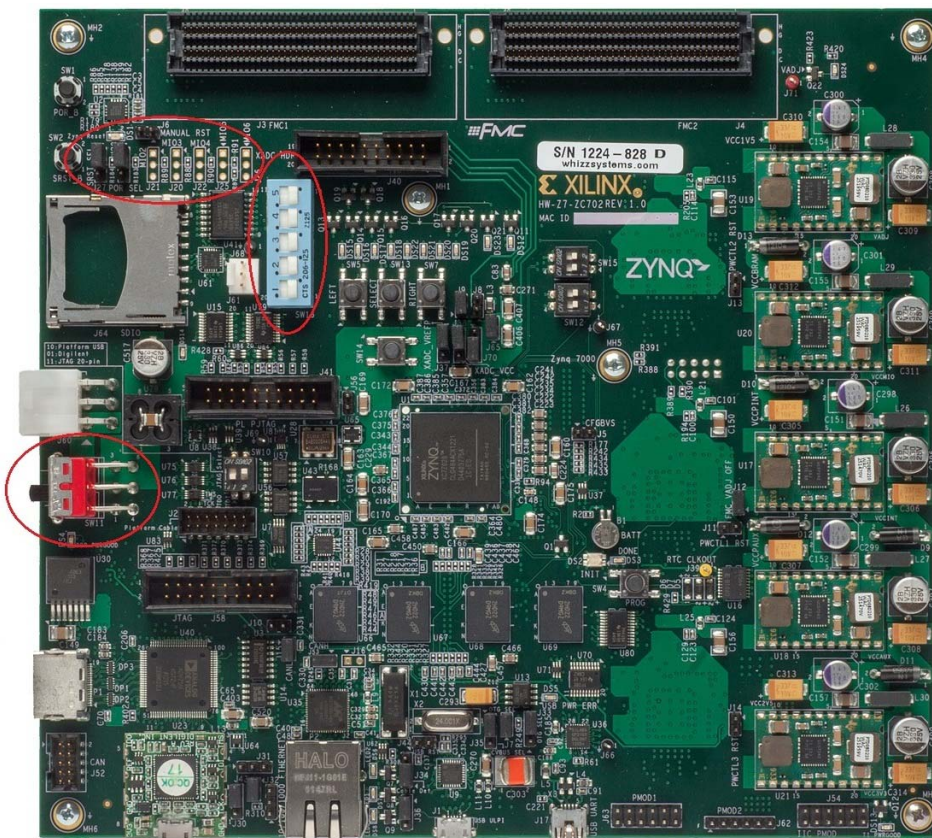

Figure 2-6: ZC702 Board Power Switch
4. Power on the ZC702 board using the switch indicated in Figure 2-6.
IMPORTANT: Ensure that jumpers J27 and J28 are placed on the side farther from the SD card slot and change the SW16 switch setting as shown in Figure 2-6.